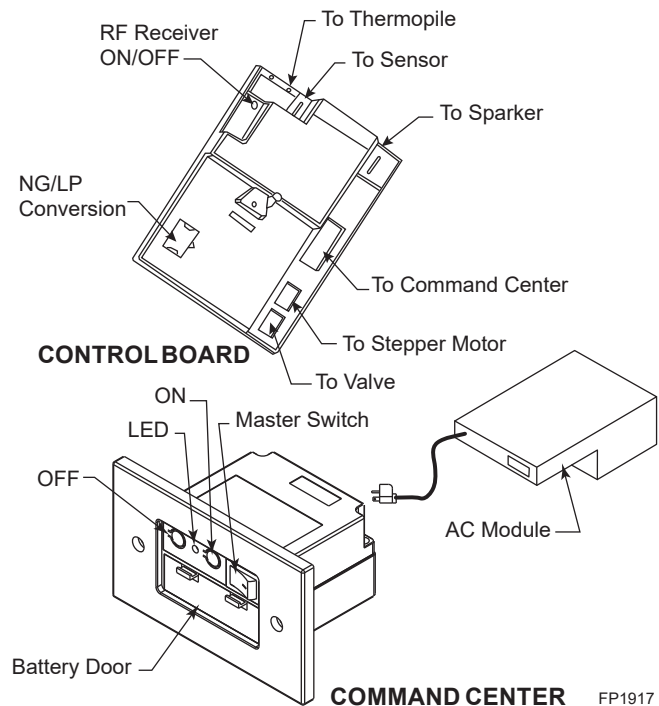

Figure 17. Signature Command® System Components
1. The RF receiver button located on the Control Board must be in the on position before the learn function can begin. Use paper clip to depress button. One beep for RF receiver ON or two beeps for RF receiver OFF will be given as confirmation. Refer to Figure 17 for location.